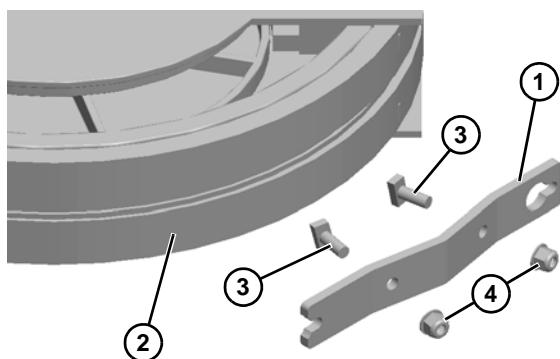

Figure 22
3. Install tie bar (**Figure 22, item 1**) to curved conveyor section (**Figure 22, item 2**) with two M8 x 20 mm studs (**Figure 22, item 3**) and hex nuts (**Figure 22, item 4**).